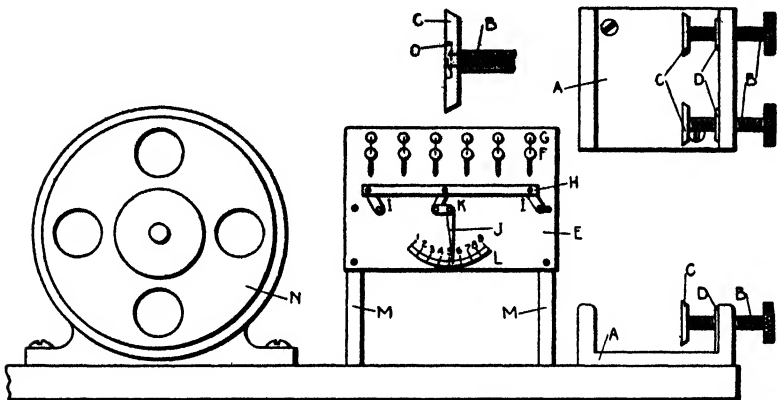

Fig. 12. Magneto Test Stand
**Magneto Test Stand.** For testing magnetos, a substantial device that may be quickly set up is necessary. Fig. 12 shows a simple design for such an apparatus. The vise *A* holds the magneto to be tested, clamping it tightly by the two screws *B*. The magneto has a pulley provided with the standard taper, which is 5 degrees, or if a coupling is on the magneto that may be used for a pulley, a  $\frac{3}{4}$ -inch leather belt connecting this coupling with the motor pulley. The high-tension wires are connected to the adjustable spark gap, and the magneto is then tested. The motor *N* should be a variable-speed, 110-volt, and, if possible, direct-current machine. A starting box is used, taking the return spring from the handle and using it for a regulator. This will not